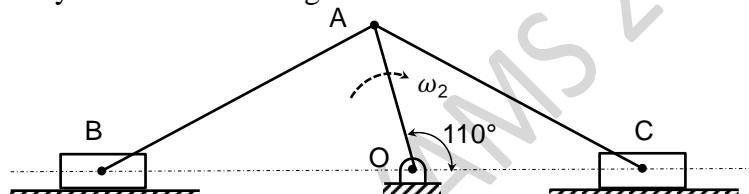

Fig.6b
b) A double slider crank mechanism is shown in Figure 6b. The crank OA rotates at a constant angular velocity of 10 rad/s clockwise. The links OA, AB, and AC are 100 mm, 200 mm and 200 mm long respectively, and angle AOC = 110°. By drawing the velocity polygon, determine the velocity of each slider and the angular velocity of each connecting rod.